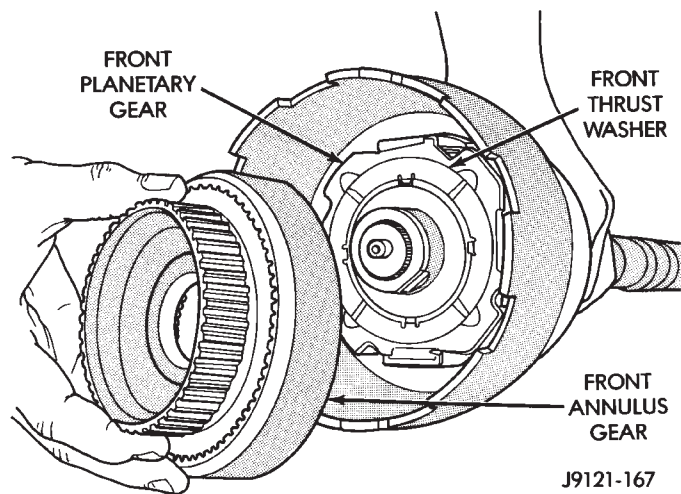

Fig. 95 Installing Front Planetary And Annulus Gears
(14) Install front planetary gear on output shaft and in driving shell (Fig. 95).
(15) Install front thrust washer on front planetary gear. Use enough petroleum jelly to hold washer in place and be sure all four washer tabs are seated.
(16) Assemble front annulus gear and support, if necessary. Be sure support snap ring is seated.
(17) Install front annulus on front planetary (Fig. 95).